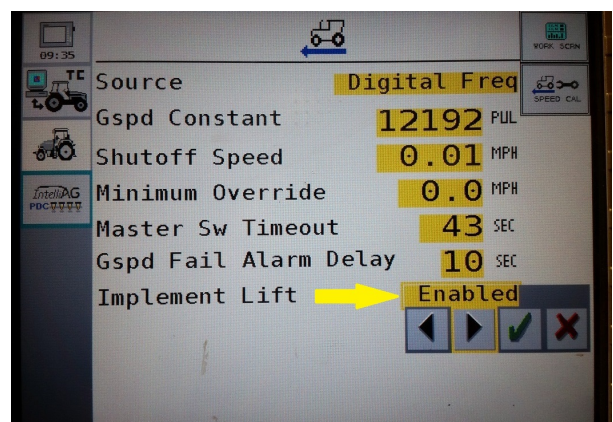

Figure 41
Step 17. Enable **Implement Lift** (Figure 41)